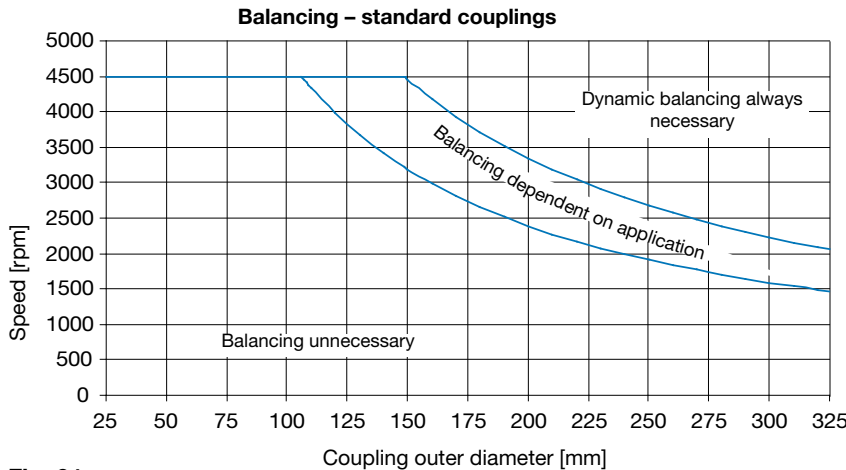

Fig. 91
- Coupling circumferential speed (Fig. 91)